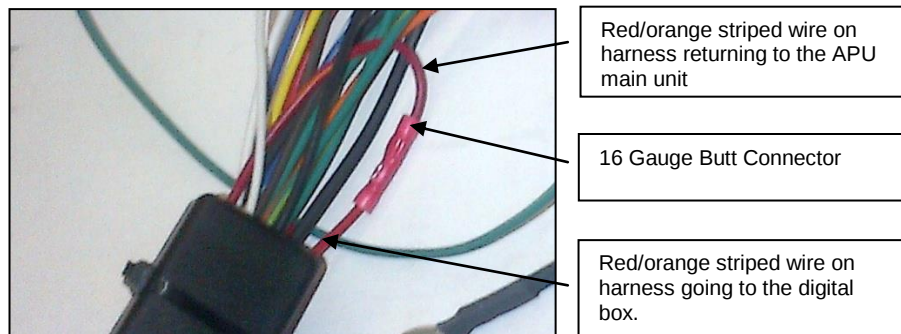

Figure 7
6. Locate red and orange striped wire on the J4 Connector Pin # 7 (Speed Signal Ground). Cut the red and orange striped wire about 6" down from the J4 Connector. (The wire going into the Power Module will not be used again.) Connect red and orange striped wire from digital speed sensor box to red and orange striped wire going to the APU main unit with butt connector (Figure 7)